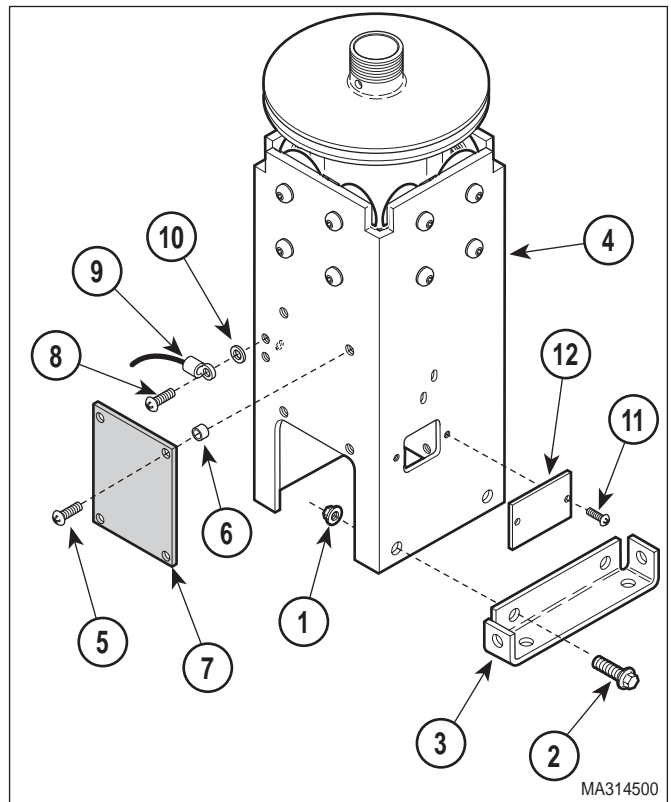

Figure 4-16. Removal / Installation of External Components of Column Assembly
- (1) Remove thrust bearing (Refer to para 4.7).
- (2) Remove base actuator (Refer to para 4.8).
- (3) Remove four nuts (1, Figure 4-16), screws (2), and two base mount angles (3) from elevation column (4).
- (4) Remove four screws (5), spacers (6), and PC control board (7) from elevation column (4).
- (5) Remove screw (8), ground wire (9), and starwasher (10) from elevation column (4).
- (5) Install switch cover (12, Figure 4-16) on elevation column (4) and secure with two screws (11).
- (6) Install starwasher (10) and ground wire (9) on elevation column (4) and secure with screw (8).
- (7) Install four spacers (6) and PC control board (7) on elevation column (4) and secure with four screws (5).
- (8) Install two base mount angles (3) on elevation column (4) and secure with four screws (2) and nuts (1).
- (9) Install base actuator (Refer to para 4.8).
- (10) Install thrust bearing (Refer to para 4.7).
- (11) Plug chair power cord into wall outlet.